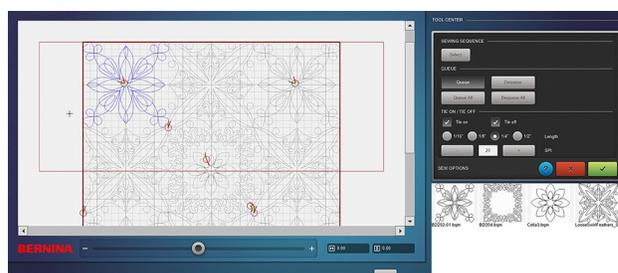

Fig. 83
- o Select Queue and tap only this design on the screen. The queued design is blue. This should be the only blue design on the screen (Fig. 83).